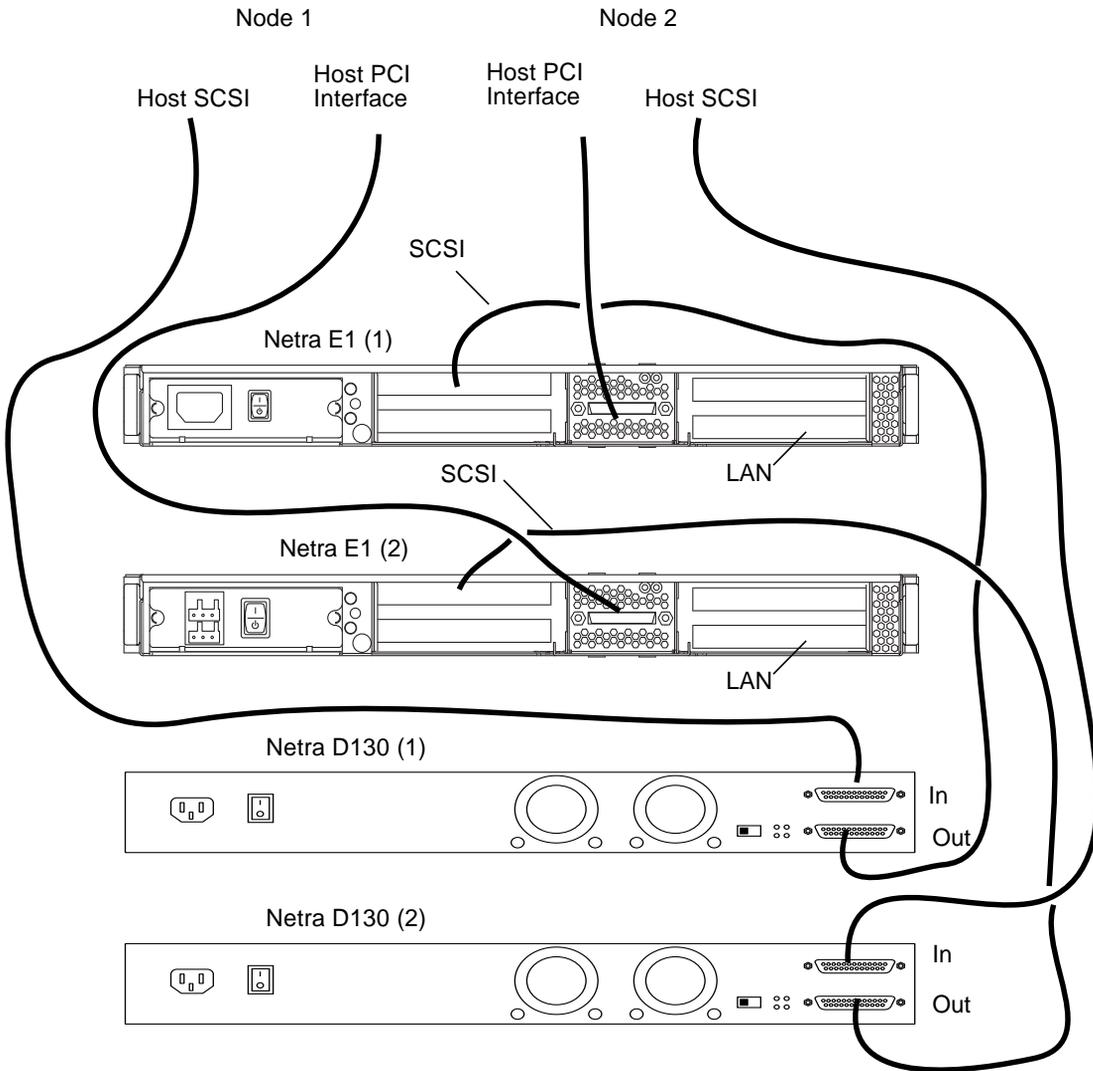

FIGURE 10-2 Example of SCSI Cabling for an Enclosure Mirrored Pair
1. Connect the cables to the Netra D130/StorEdge S1 enclosures, as shown in FIGURE 10-2.